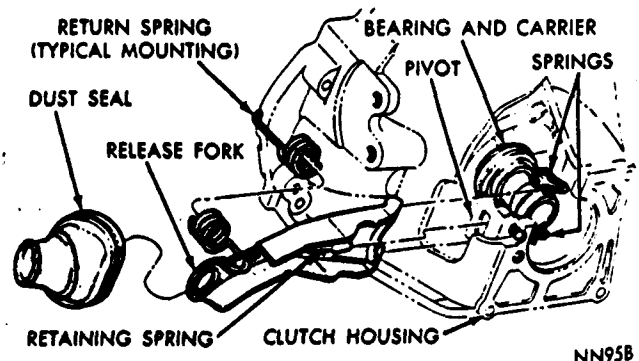

Fig. 3—Release Fork, Bearing, and Carrier
(5) Remove fork rod assembly spring washer from pin and remove rod with adjusting nut, washer, and insulator.
(6) Remove clutch release bearing and carrier assembly from clutch release fork then remove release fork and boot from clutch housing (Fig. 3).